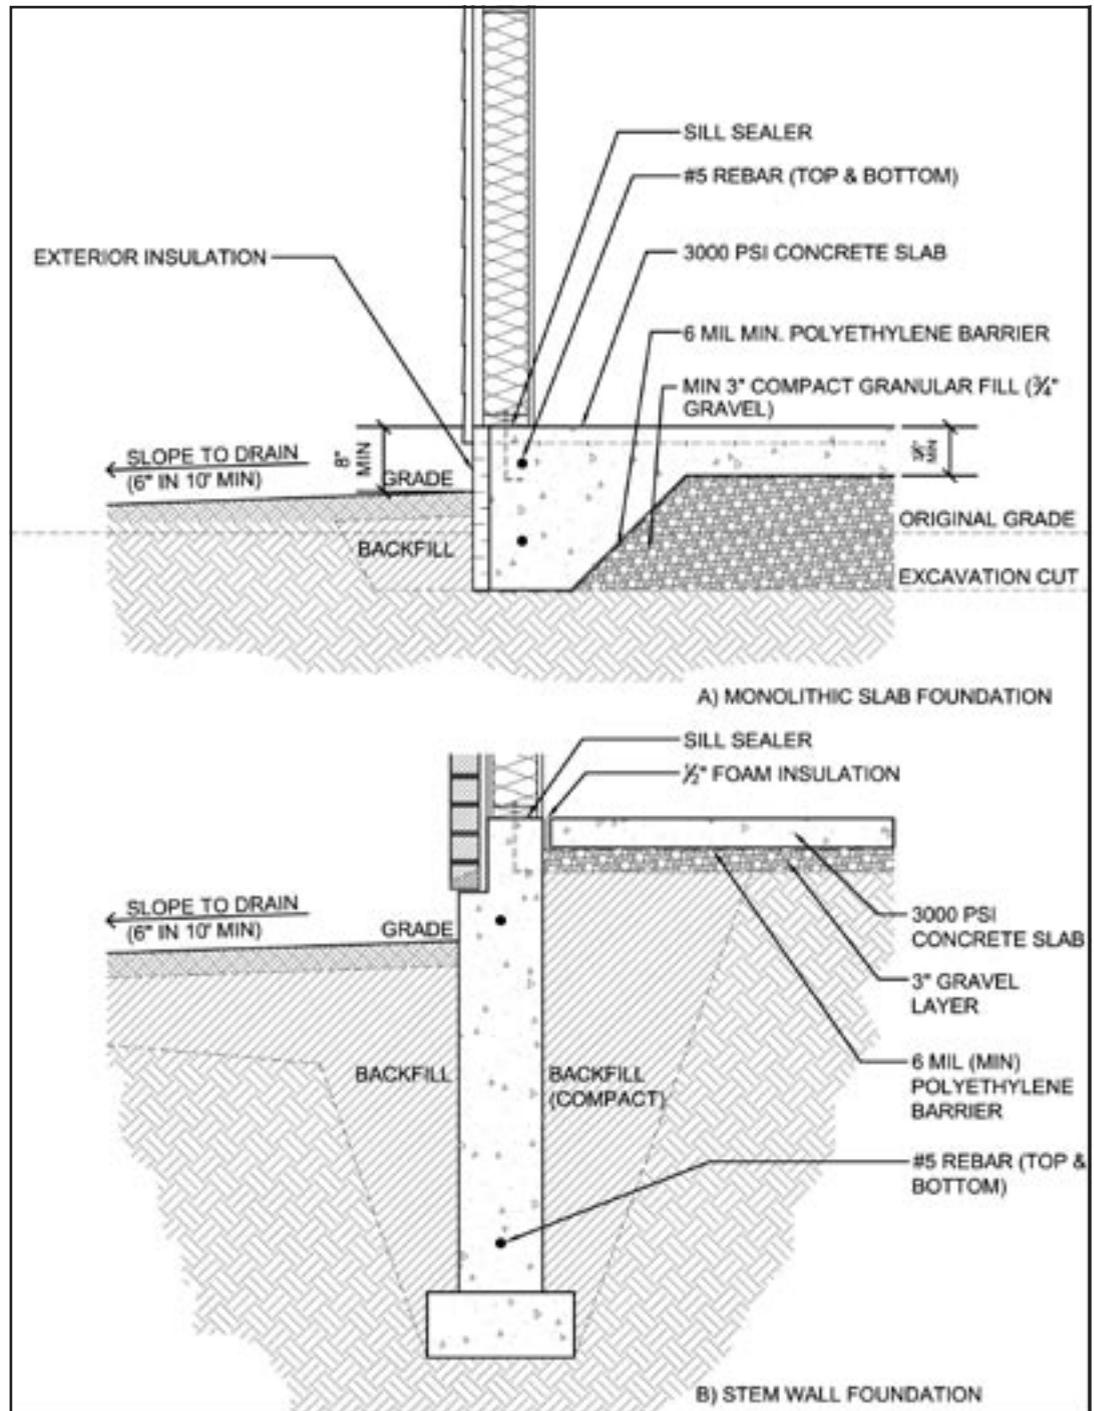

Figure 26 – Slab on Grade Construction
**OBJECTIVE:** In this section, slab on grade (thickened edge or monolithic slab) foundation construction is addressed. Given their similarity, concrete or masonry stem wall foundations with an independent above-grade slab floor are also addressed. The moisture-resistant best practices featured in this section are summarized in Figure 26. They are relatively simple in comparison to the requirements for basement construction; however, many of the same principles apply. Slabs below the outside ground level, as with partial or full-basement construction, should be